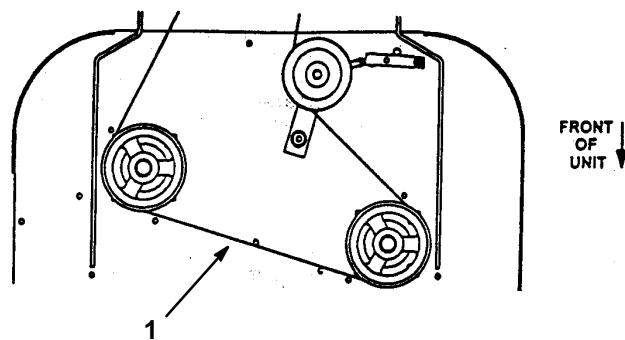

Figure 45
3. Remove mower belt (Fig. 45).
7. Install the mower belt (Fig. 45).
3. Loosen locknut and turnbuckle on idler arm. Remove worn belt (Fig. 45).
4. Install new belt and adjust belt tension, loosen the $5/16''$ locknut on turnbuckle and rotate the turnbuckle toward the rear of mower to tighten or toward the front of mower to loosen belt tension (Fig. 45).